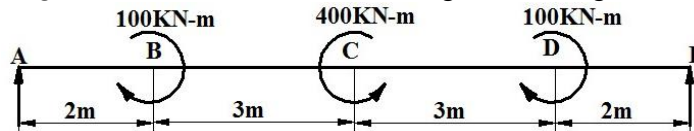

Figure 29
18. For the beam shown in **Figure 29**. Draw shear force and bending moment diagram